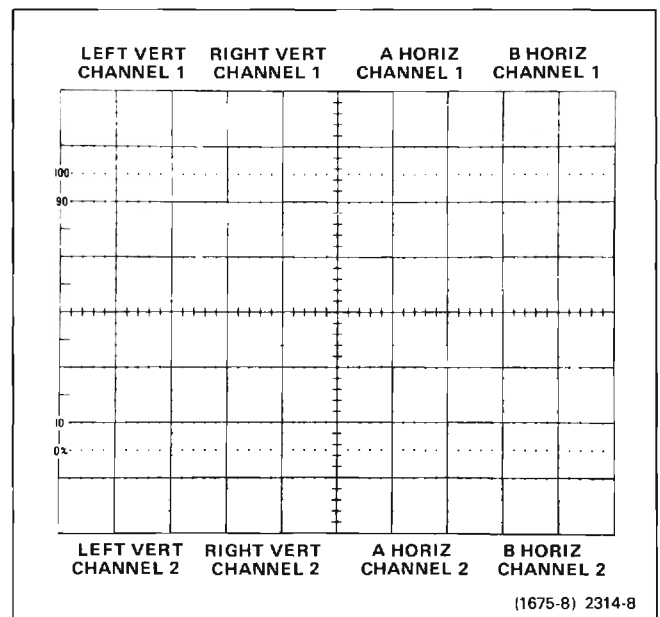

Figure 3-8. Location of readout display on the crt identifying the originating plug-in and channel.
**Frame**—A display of all words for a given operating mode and plug-in combination. Up to 8 words can be displayed in one frame. Figure 3-8 shows the position of each word in a complete frame.
Up to 8 words of readout information can be displayed on the crt. The position of each word is fixed and is directly related to the plug-in unit from which it originated. Figure 3-8 shows the area of the graticule where the readout from each plug-in unit is displayed. Notice that Channel 1 of each plug-in unit is displayed within the top division of the crt and Channel 2 is displayed directly
The Format Generator stage provides the output signals to the vertical and horizontal deflection systems of the instrument to produce the character display. The binary Channel Address Code from the Channel Counter stage is connected to this stage, so that the display from each channel is positioned to the area of the crt associated with the plug-in and channel originating the word (see Fig. 3-8). The positioning current or decimal point location current generated by the Decimal Point Logic and Character Position Counter stage is added to the Horizontal (X) signal at the input to the Format Generator stage to provide horizontal positioning of the characters within each word. The X- and Y-Readout signals are connected to the Horizontal Amplifier and Vertical Amplifier through the X- and Y-Buffer stages.